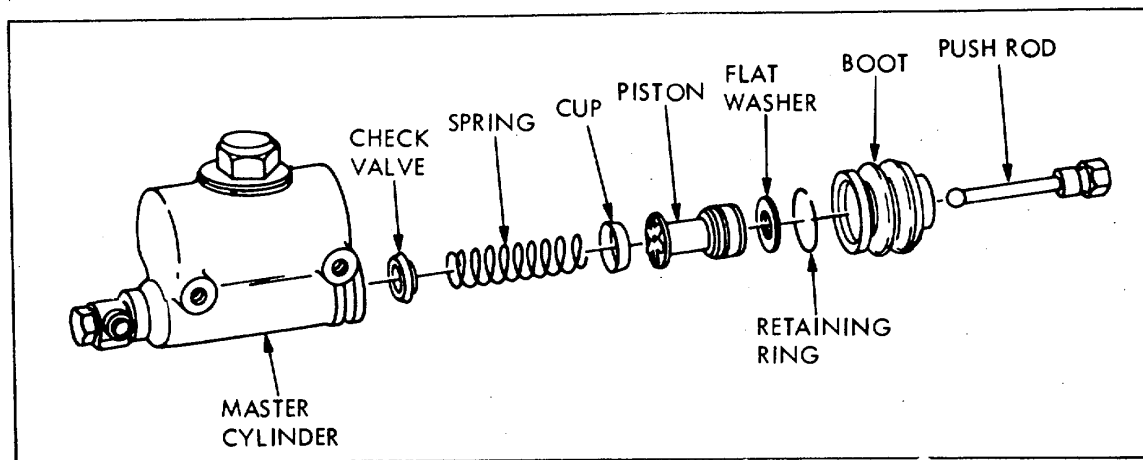

Figure 6-10. Master Cylinder, Exploded View
(1) Remove boot (Figure 6-10) and push rod, take out retaining ring, and remove washer, piston, cup, spring and check valve.